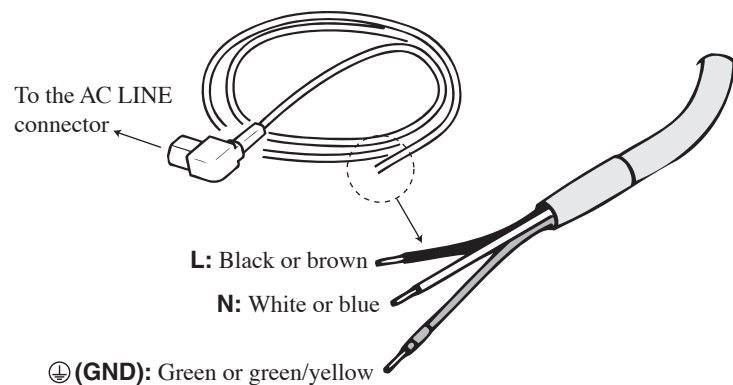

Fig. 1-2 Power Cord
3. Prepare the terminals at the AC power line end of the power cord as shown in Fig. 1-2.